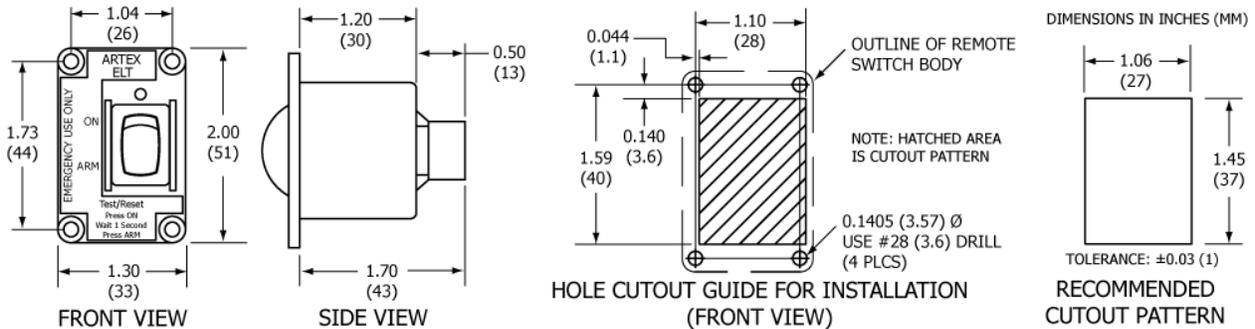

Figure 17 Remote Switch Outline and Dimensions
- 2) The switch assembly requires a panel area of approximately 2.0 x 1.3 in. (51 x 33 mm). Figure 17 shows the dimensions. The clearance behind the panel must allow for the mating connector and harness wires, as well as the switch depth.